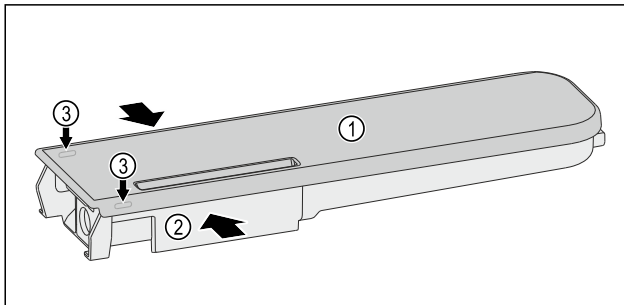

Fig. 125
- ▶ Push the water tanks *Fig. 125 (2)* together, leverage the cover *Fig. 125 (1)* carefully over the latching tabs *Fig. 125 (3)* and lift it up.
- ▶ Move the cover *Fig. 125 (1)* slightly forwards and back, and remove to the top.